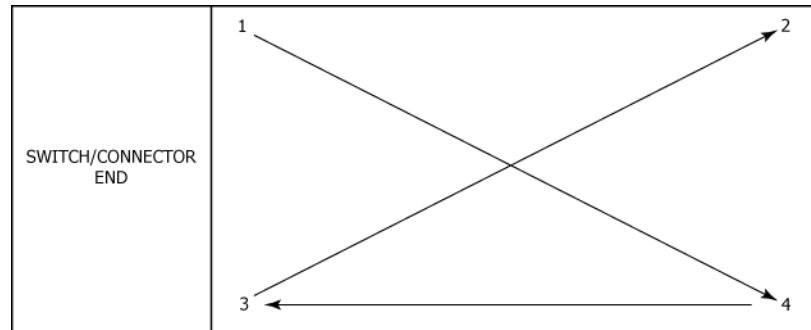

Figure 26 Battery Pack Retaining Screw Tightening Pattern
- 11) Tighten and torque the screws as shown in Figure 26. Torque to 6-8 lb-in (68-90 N•cm).